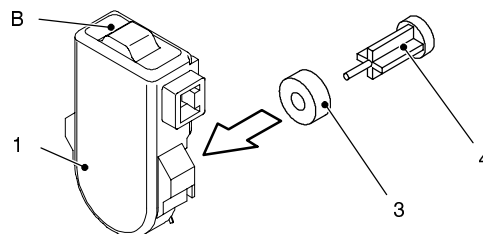

Fig. 61
- 3 Hold the flow switch sensor 1 and bring the ring in touch with the sensor as illustrated in Fig. 61.